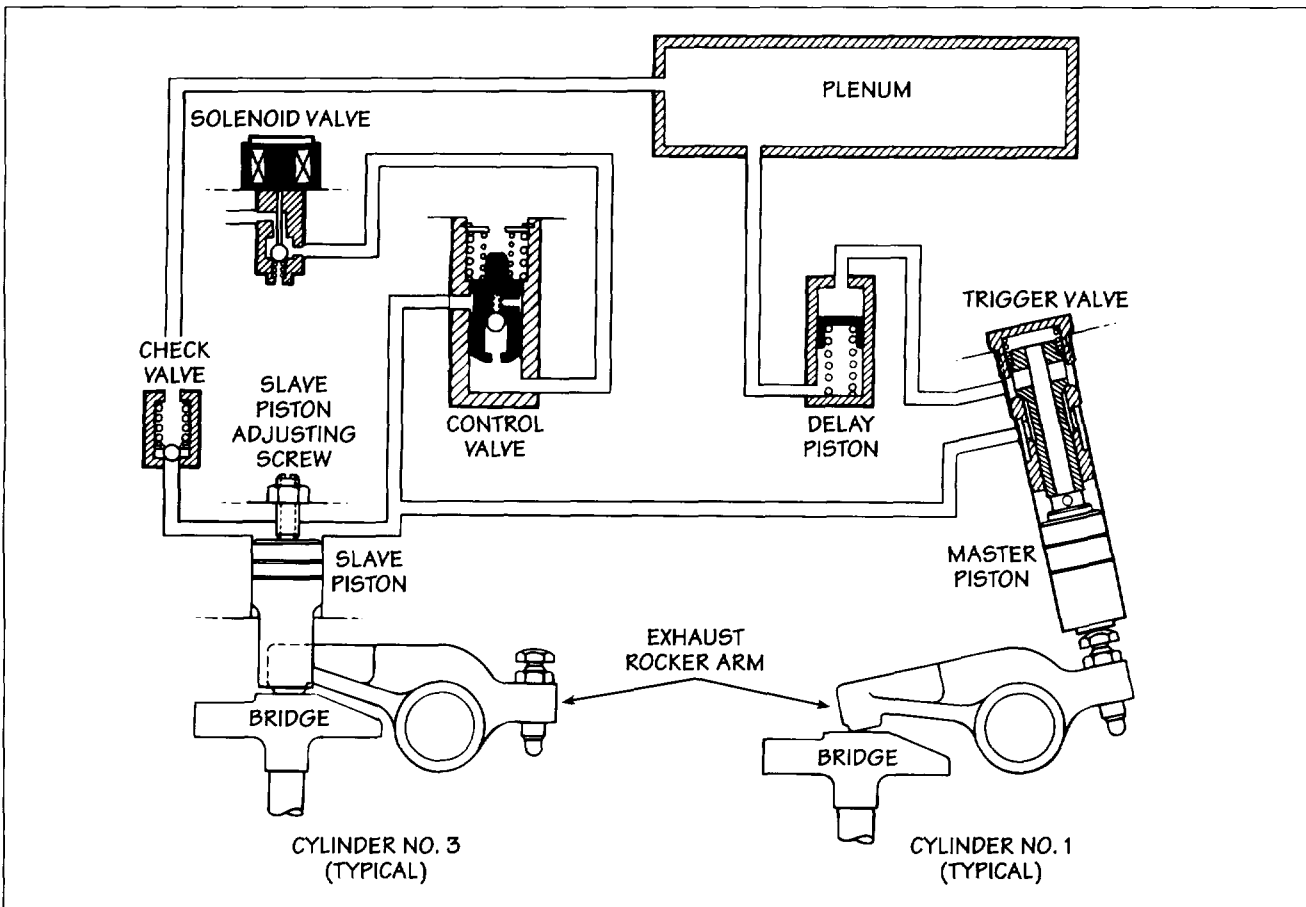

FIG. 48
The braking cycle is accomplished by utilizing the pushrod motion of an exhaust valve of another cylinder during its normal exhaust cycle. Referring to Fig. 48, Cylinder No. 1 exhaust pushrod opens the exhaust valves of Cylinder No. 3 in this sequence.
Replace all parts in the order shown in Fig. 48. Tighten the check valve assembly (5) to 35 lb.-ft. (48 N•m).